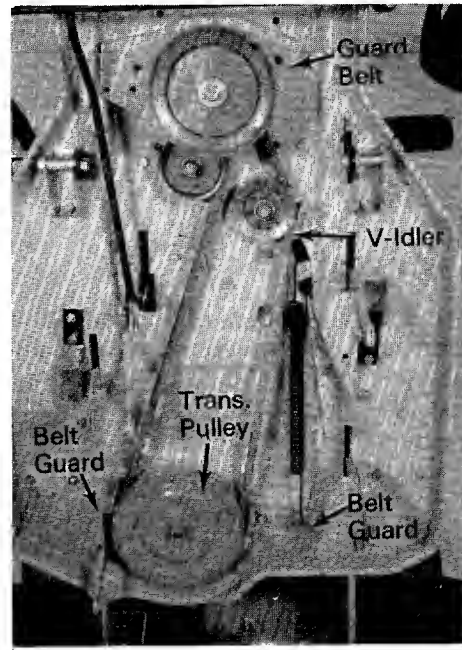

Figure 19.
6. Remove the six pins holding the deck to the frame (See figure 19.)
TRANSMISSION BELT (See figure 19.)